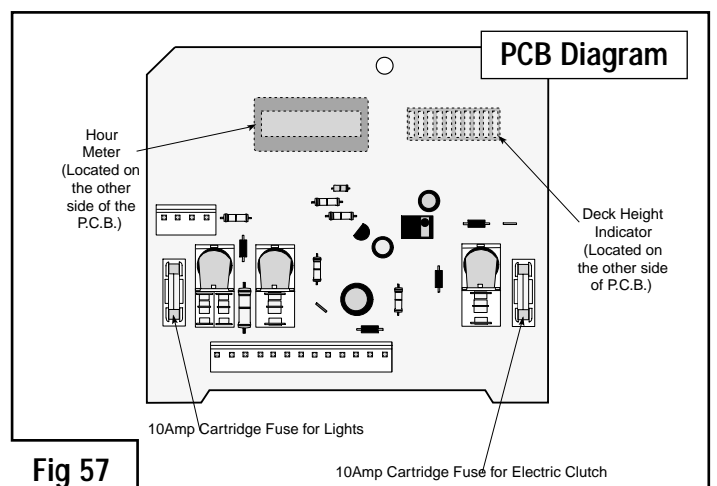

Fig 57
PRINTED CIRCUIT BOARD FUSES - Fig 57
3. Fuse blown on Printed Circuit Board – see figure 57.